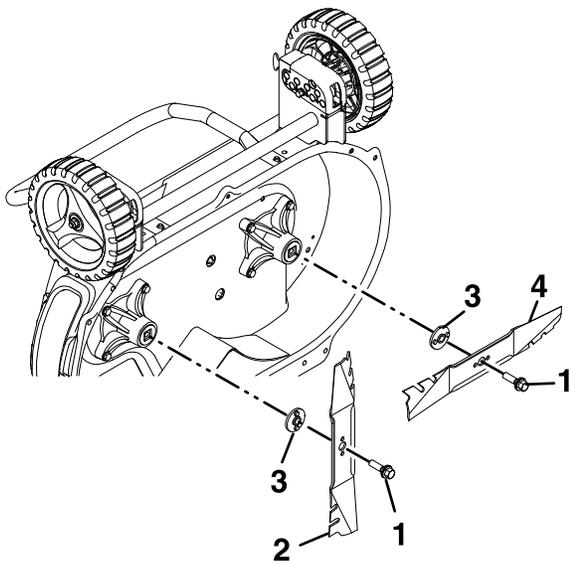

Figure 22
- B. Make sure to grasp the end of the blade using a rag or a thickly padded glove. Align the two holes on the blade with the two holes on the blade driver and install a sharp, balanced Exmark blade and blade bolt as shown in Figure 22. The sail of the blade must point toward the top of the lawn mower housing for proper installation.